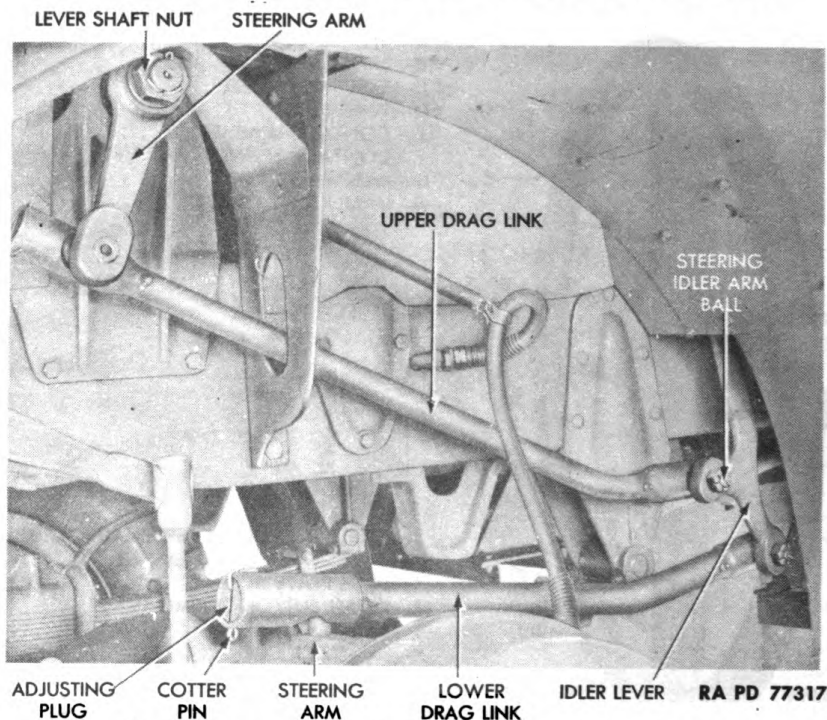

Figure 97 – Drag Links and Steering Arm
(3) **ADJUST DRAG LINK OR REACH ROD END PLAY** (fig. 97). End play at either end of each drag link is adjusted as follows: Remove cotter pin which holds adjusting plug in position. Turn adjusting plug a half turn at a time until slack is removed. Install cotter pin. Do not tighten more than necessary.
143. DRAG LINKS (UPPER AND LOWER) (fig. 97).
144. STEERING (PITMAN) ARM (fig. 97).